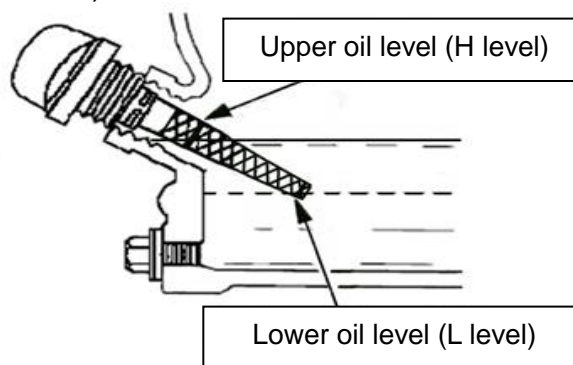

Fig 4-7
2.3.3. Replenish the crankcase with the recommended type of oil until the oil level comes up to the upper most position of the refilled 350 ml if the existing oil level is found too low.; (Fig 4-7)